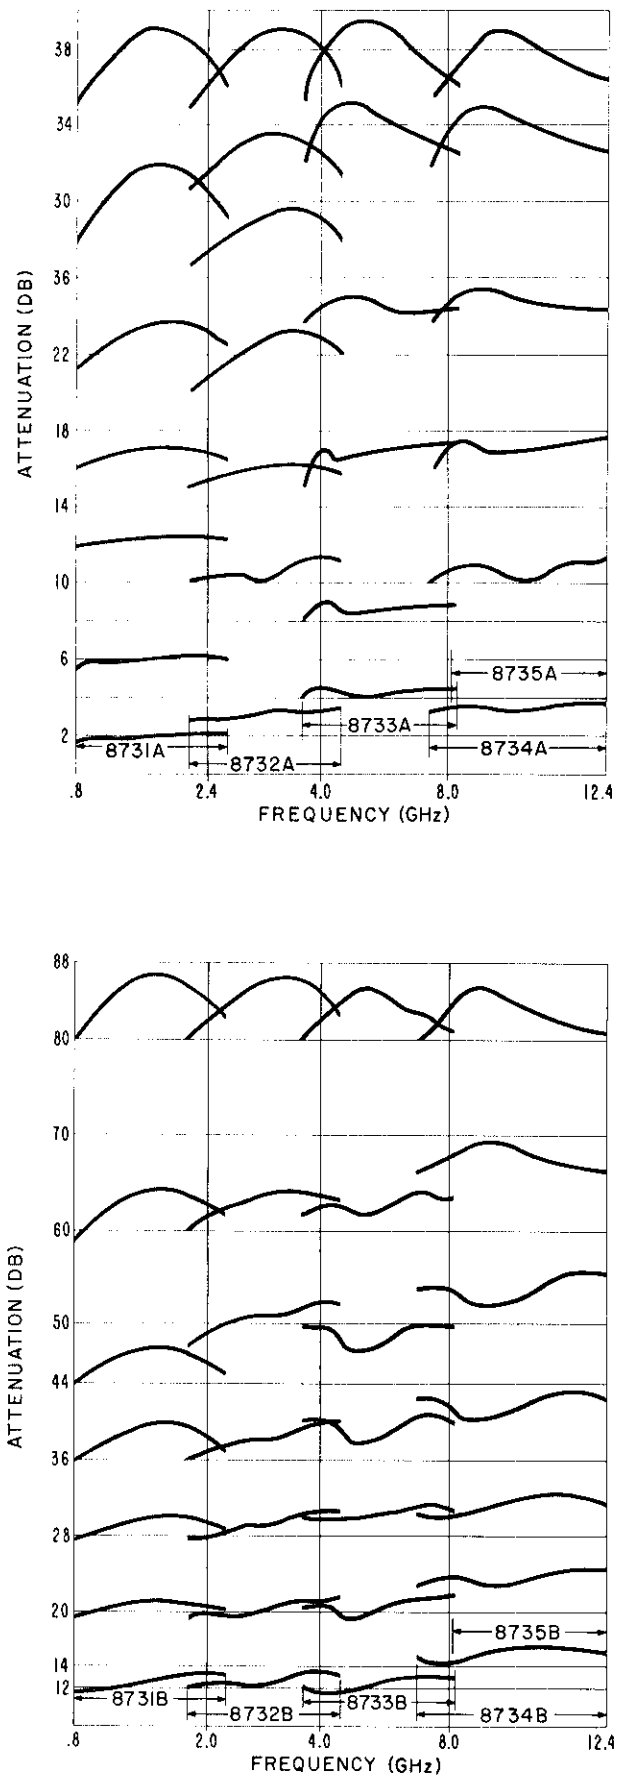

Figure 6. Typical Frequency Response
18. The attenuation with a constant forward-bias varies with frequency. This variation is small at low levels of attenuation and more noticeable at higher values of attenuation (see Figure 6). In addition, it should be noted that attenuation is a minimum at each end of the frequency band. Thus, the frequency band can be exceeded provided a degradation in attenuation range as well as other specifications is acceptable. Note: exceeding the band limits by a large degree is unpractical.